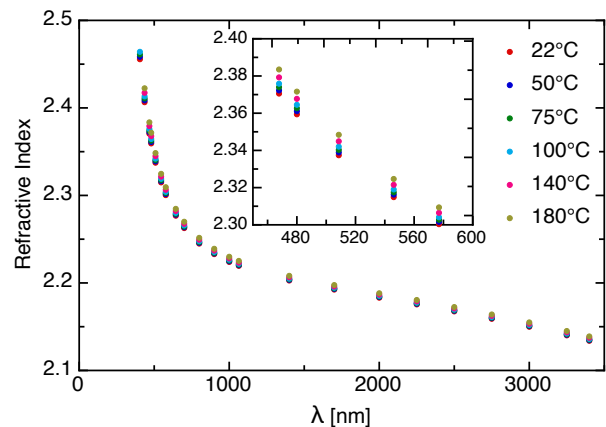

FIG. 1. Graphical representation of the data shown in Table I.
Figure 1 shows a plot of the refractive index data, with the inset showing the not extremely big, but significant change in the data as the temperature is raised.
Do you see how the data starts “bending down” towards the infrared in Figure 1? Can this behavior be modeled at all with Eq. (1)? Can we add one more oscillator so that we can finally obtain a good fit? At which wavelength should this oscillator be, so that it causes the function to bend down to follow the data? Try one last extension to further improve the fit